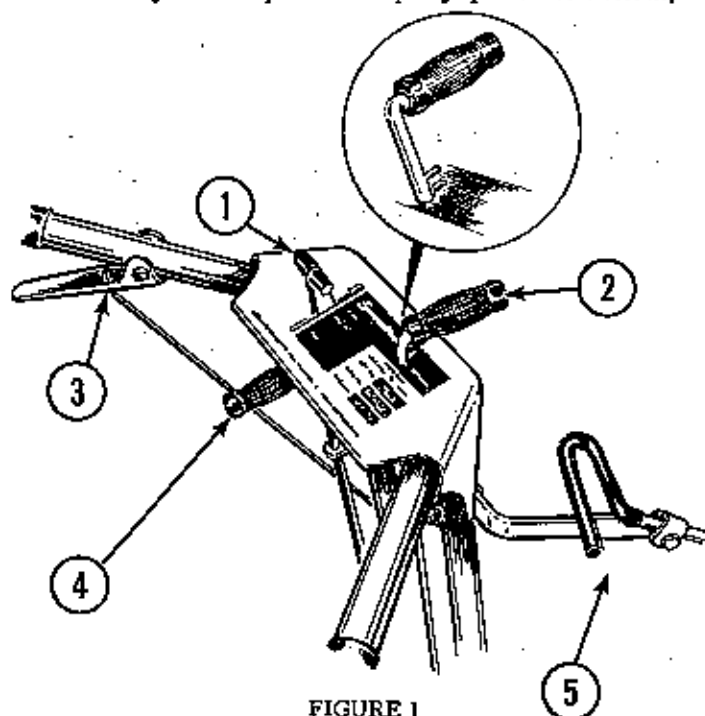

FIGURE 1
Visualize yourself standing at the operators position by looking at figure 1. Before starting the engine let's learn how you can use these controls, all within easy reach, to **SIMPLIFY** your snow moving problem. You are safely behind the handles away from all moving parts even for starting. Your Sno-Away is one of the very few snow throwers with this convenience and safety. (The numbers on the figure correspond to the paragraph numbers below.)
2. **THE TRANSMISSION DIRECTION CONTROL** has three positions - down for forward, up for reverse, and centered for neutral. Figure 1 shows the pin in the handle and key hole slot in the panel provide positive stopping in neutral from either forward or reverse. The Touch-O-Matic trigger must be released before shifting.